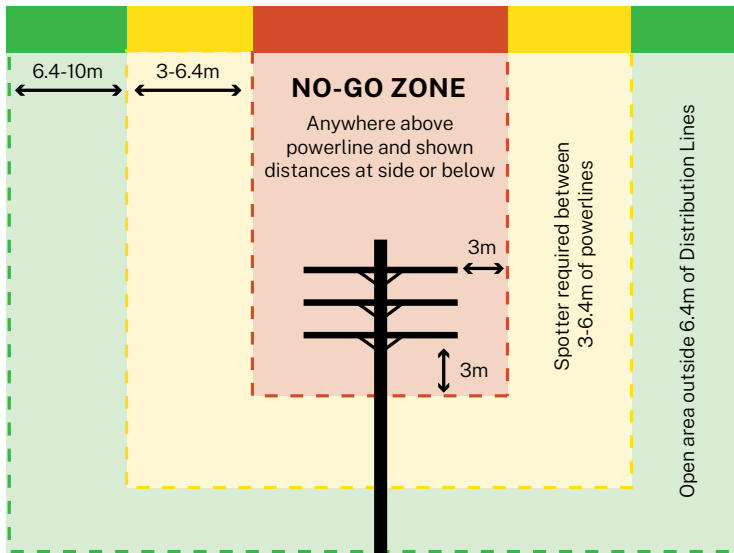

Figure 11 No-go zones and spotter distances for distribution lines
- Remain at least three metres beside and below distribution lines (Figure 11).